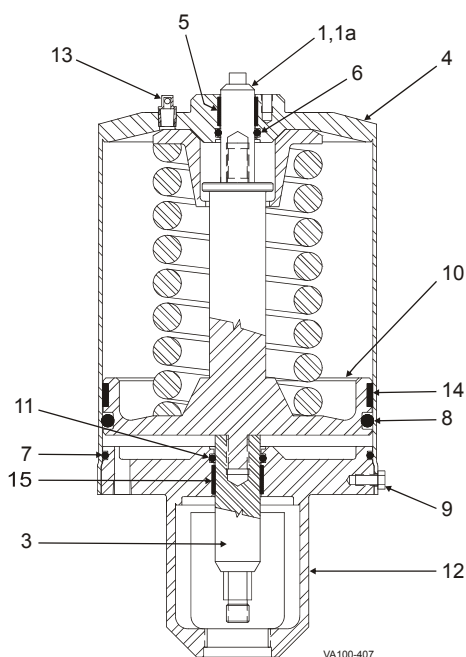

Figure 32: 6" Actuator
1. Inspect the piston o-ring seal (Figure 32, item 8).
2. Remove the worn o-ring seal. Do not score or nick grooves in the piston (item 10).
5. Inspect and replace the PTFE guide bearing (item 14) on the piston as needed.
7. Place the cylinder over the yoke, and install cap screws (item 9) to secure it.